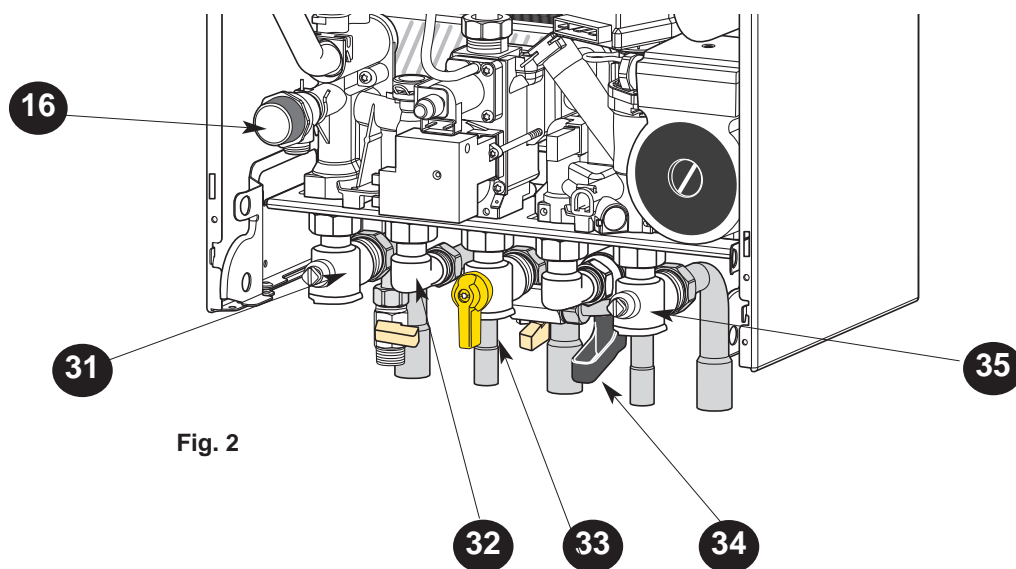

Fig. 2
Connecting bracket Taps shown in Open position (Fig. 2)
Starting up (Fig. 2)
3. Ensure that the appliances gas inlet tap is open **33** (Fig. 2).
*In some circumstances, it is possible that the pipes (and possibly a radiator) heat up slightly after hot water is drawn. To prevent this, simply close the central heating flow tap **31** (Fig. 2).*